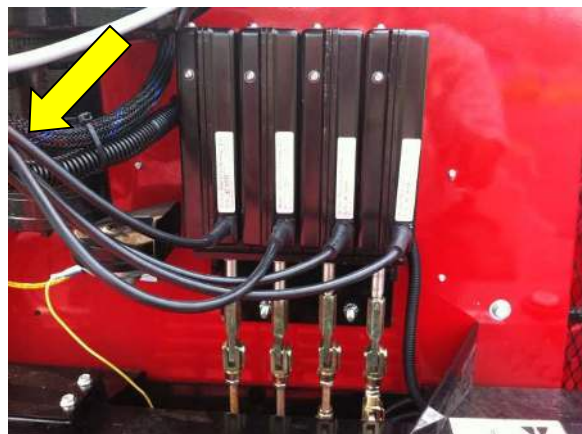

FIG. 4
- h. Dress cables as shown in FIG. 4
4. Connect each of the actuator cables to one of the 4 jacks provided on the Y-cable from the receiver. Loop any extra cable and bundle these neatly, tying them to a convenient point (FIG. 4).